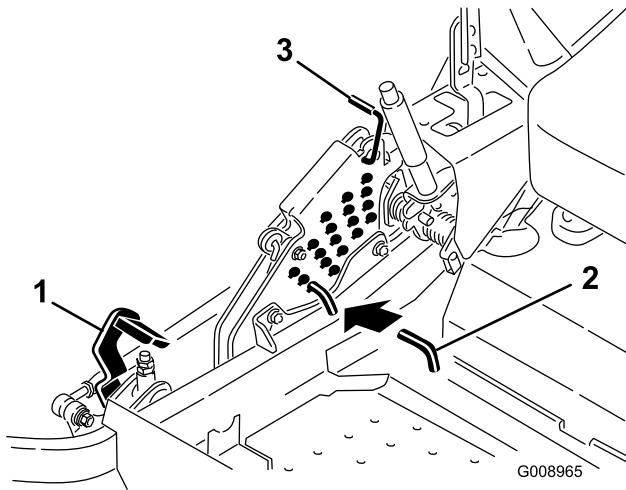

Figure 26
2. Push on the deck lift pedal with your foot and raise the mower deck to the transport position (also the 5-1/2 inch (140 mm) cutting height position) (Figure 26).
3. To adjust, rotate the pin 90 degrees and remove the pin from the height-of-cut bracket (Figure 26).
- Select a hole in the height-of-cut bracket corresponding to the height-of-cut desired and, insert the pin (Figure 26).